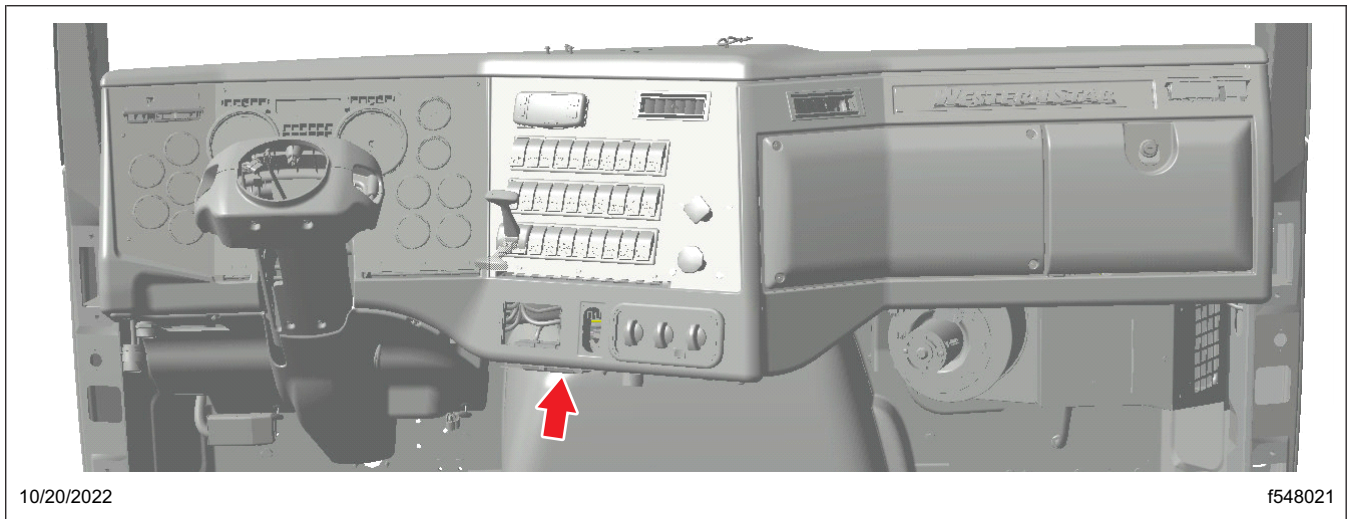

Fig. 23, IPPC Bracket Location
4. Check if the IPPC bracket is installed on the top of the engine cover. See Fig. 23.